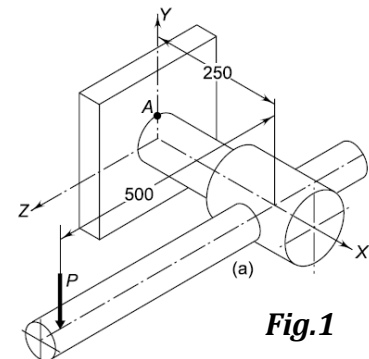

Fig.1
3. The shaft of an overhang crank subjected to a force P of 1.2 kN is shown in Fig.1. The shaft is made of plain carbon steel 30C8 and the tensile yield strength is 400 N/mm². The factor of safety is 2.1. Determine the diameter of the shaft using the maximum shear stress theory. All dimensions shown in the figure are in mm.